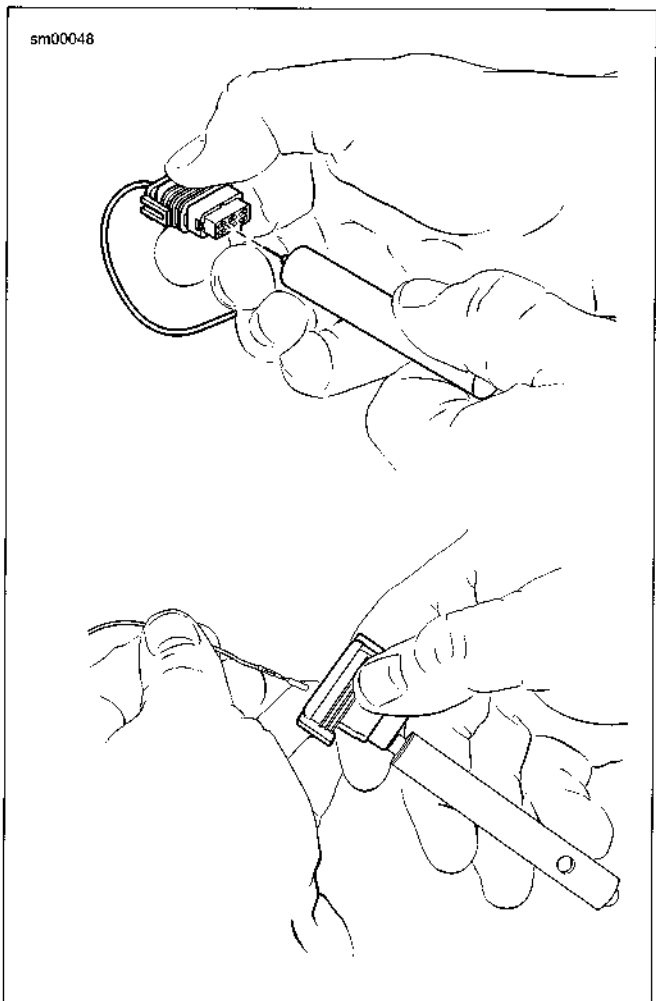

Figure A-25. Delphi Micro-64 Sealed Connector: Insert Tool and Remove Terminal
5. See Figure A-25. Push the adjacent terminals all the way into the connector housing and then insert tool into hole until it bottoms.